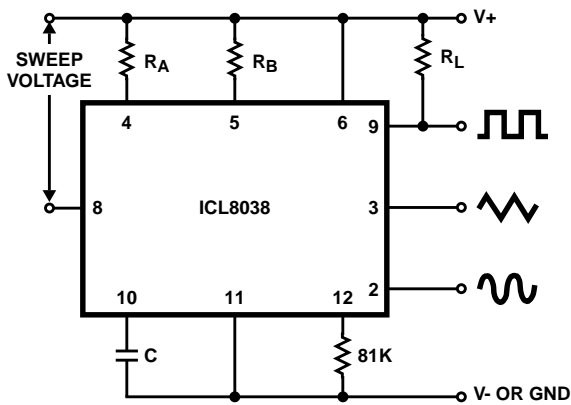

FIGURE 5B. CONNECTIONS FOR FREQUENCY SWEEP
7. The hi and lo frequencies can be obtained by connecting pin 8 to pin 7 (f_{HI}) and then connecting pin 8 to pin 6 (f_{LO}). Otherwise apply Sweep Voltage at pin 8 ($^{2/3} V_{SUPPLY} + 2V$) $\leq V_{SWEEP} \leq V_{SUPPLY}$ where V_{SUPPLY} is the total supply voltage. In Figure 5B, pin 8 should vary between 5.3V and 10V with respect to ground.
For larger FM deviations or for frequency sweeping, the modulating signal is applied between the positive supply voltage and pin 8 (Figure 5B). In this way the entire bias for the current sources is created by the modulating signal, and a very large (e.g. 1000:1) sweep range is created (f = 0 at VSWEPT = 0). Care must be taken, however, to regulate the supply voltage; in this configuration the charge current is no longer a function of the supply voltage (yet the trigger thresholds still are) and thus the frequency becomes dependent on the supply voltage. The potential on Pin 8 may be swept down from V+ by (1/3 VSUPPLY - 2V).